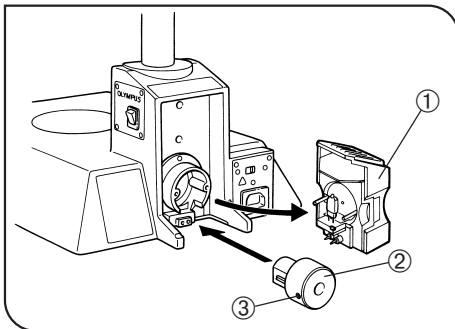

Fig. 23
(Figs. 23 & 24)
1. Remove the lamp socket ① from the illumination base by gently pulling the socket straight out. (Fig. 23)
2. Hold the transmitted light guide adapter ② so that its clamping screw ③ faces sideways, align the guide pin with the guide hole just as with the lamp socket, and push in the adapter until it stops. (Fig. 23)